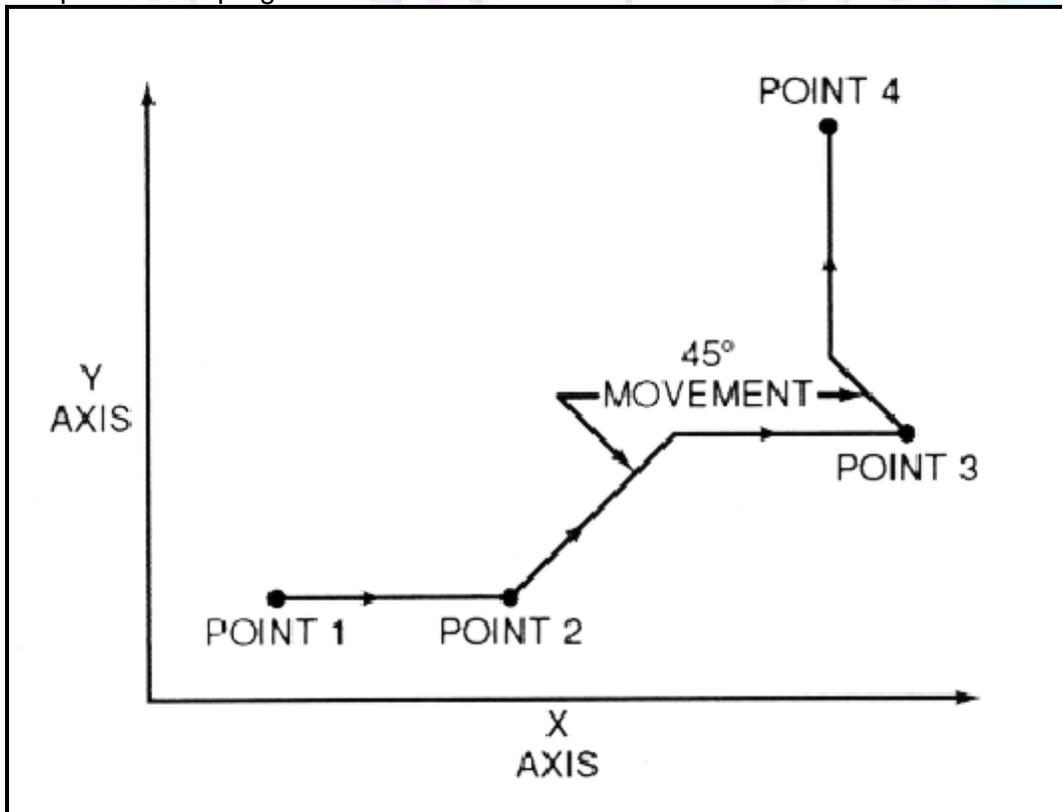

Fig. 9: The path followed by point-to-point positioning to reach various programmed points (machining locations) on the XY axis.
Point-to-point positioning is used when it is necessary to accurately locate the spindle, or the workpiece mounted on the machine table, at one or more specific locations to perform such operations as drilling, reaming, boring, tapping, and punching (Fig.9). Point-to-point positioning is the process of positioning from one coordinate (XY) position or location to another, performing the machining operation, and continuing this pattern until all the operations have been completed at all programmed locations.
In Fig. 9 point 1 to point 2 is a straight line, and the machine moves only along the X axis; but points 2 and 3 require that motion along both the X and Y axes takes place. As the distance in the X direction is greater than in the Y direction, Y will reach its position first, leaving X to travel in a straight line for the remaining distance. A similar motion takes place between points 3 and 4.